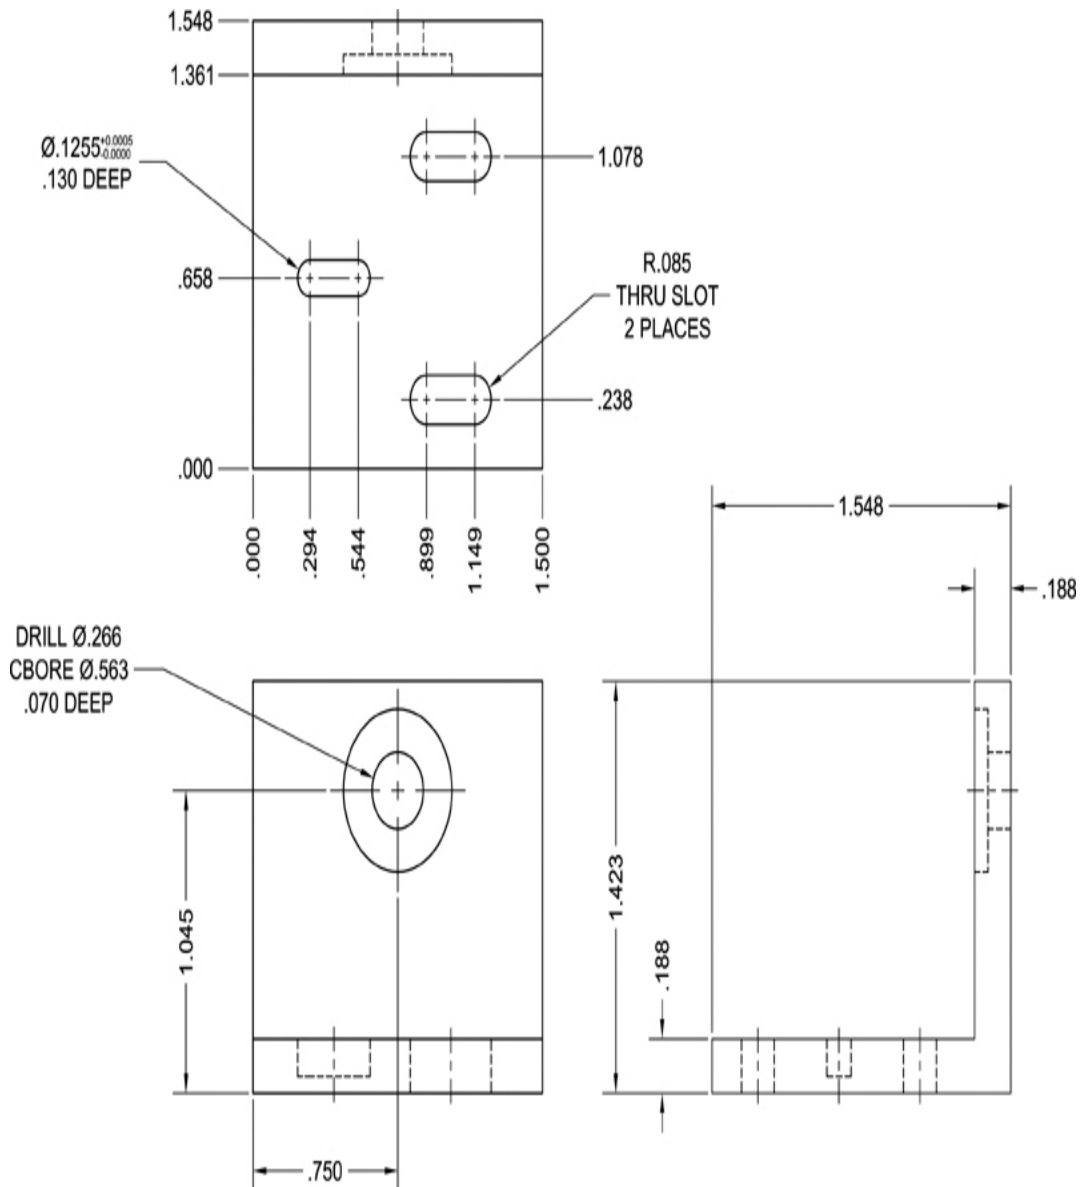

Figure 8-44
3. Create the three-view drawing as shown in Figure 8-44.